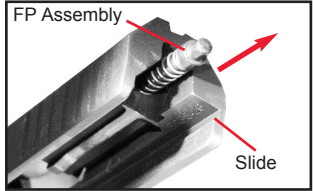

Figure 22
13. Remove the Firing Pin Assembly from the Slide by pulling it rearward. See Figure 22.